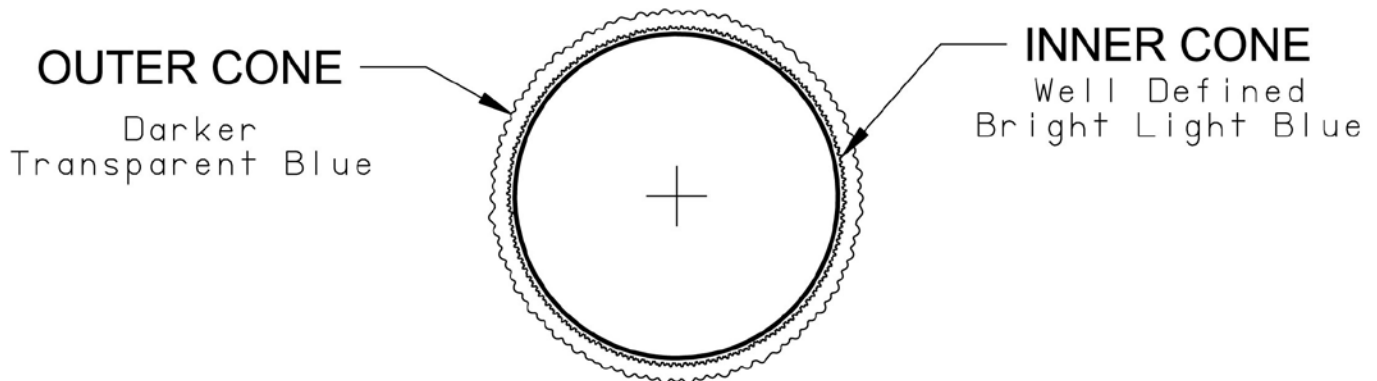

Figure 11.3: Burner Flame
14. Inspect the flame visible through the window. On high fire the flame should be stable and mostly blue (Figure 11.3). No yellow tipping should be present; however, intermittent flecks of yellow and orange in the flame are normal.